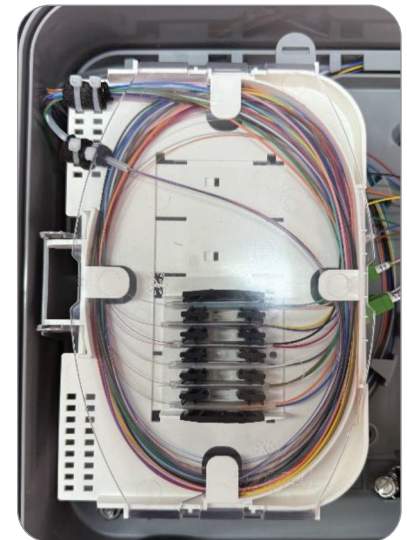

Figure 15
5. Follow accepted local practice for preparing and splicing express fibers and pigtail fibers. A figure-8 type routing may be needed to preserve proper bend radius. **(Figure 15)**